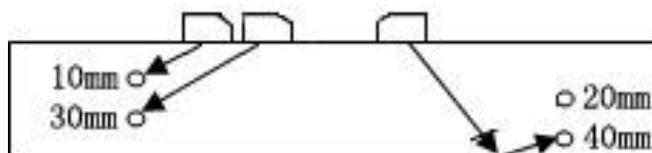

Figure3-12
(1)、Place the probe on the CSK-IIA-1 test block and look for the reflected wave from the 10mm deep $\Phi 2$ hole first, as shown in Fig. 3-12